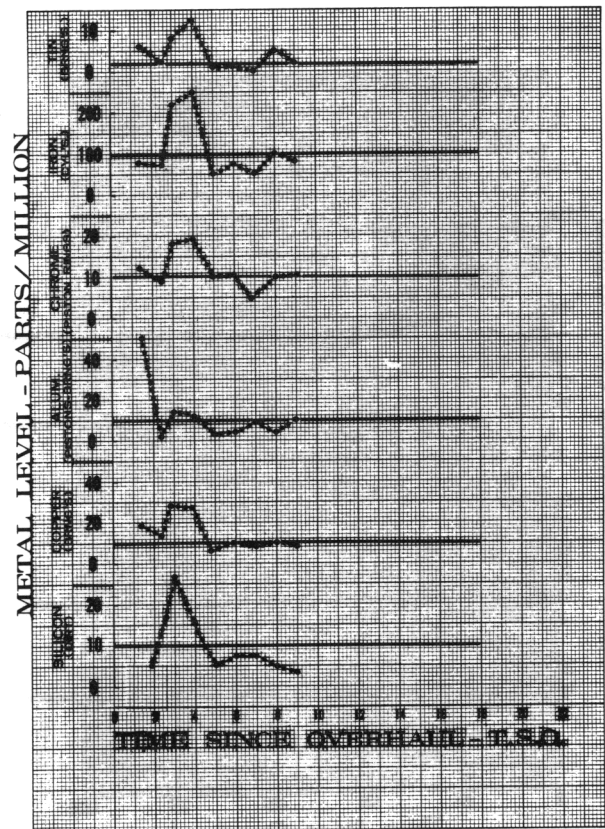

Figure 2. Typical Spectrometric Oil Analysis Showing Abnormal Wear Due to High Silicon Content - 300 Hours
1. An oil sample may be submitted for analysis at any time during the life of the engine, preferably, a sample should be submitted at specified intervals and a running log maintained, somewhat like the chart, Figure 2. The sample should be taken from the engine in the manner specified by the analyzing company.